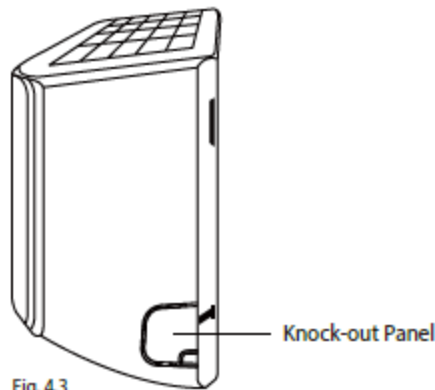

Fig. 4.3
2. If the wall hole is behind the unit, keep the knock-out panel in place. If the wall hole is to the side of the indoor unit, remove the plastic knock-out panel from that side of the unit. (See Fig. 4.3 ). This will create a slot through which your piping can exit the unit. Use needle nose pliers if the plastic panel is too difficult to remove by hand.